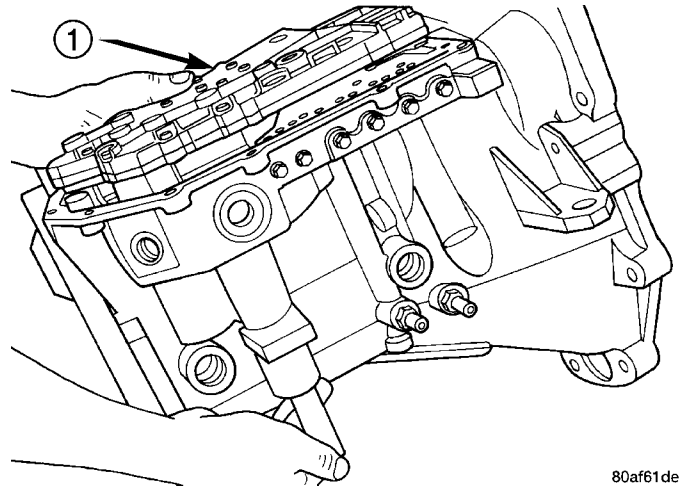
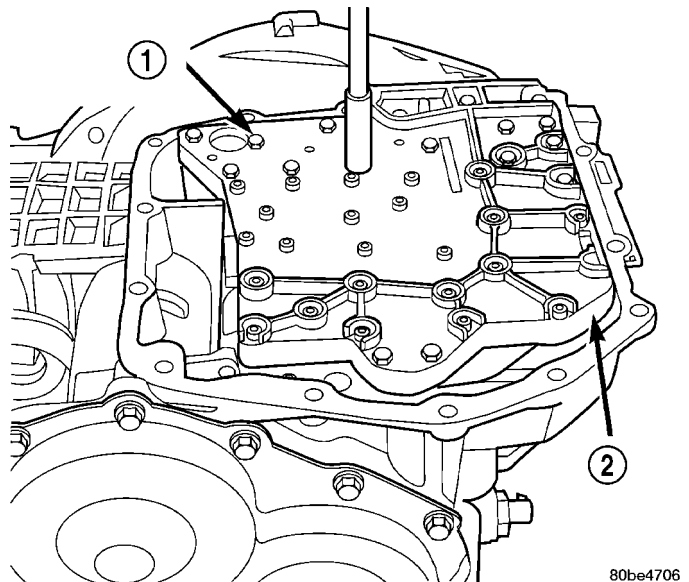

Fig. 372 Valve Body Removal/Installation
Fig. 373 Valve Body Attaching Bolts
(1) Install valve body assembly to transaxle (Fig. 372). Install and torque valve body-to-transaxle case bolts (Fig. 373) to 12 N·m (105 in. lbs.).